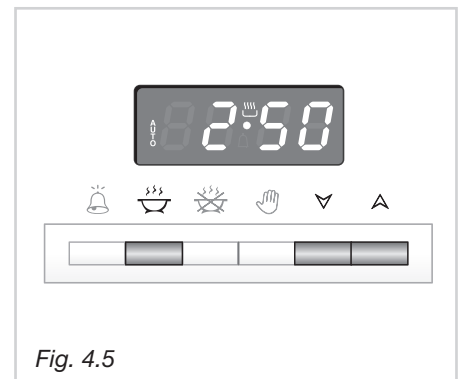

Fig. 4.5
1. Set the length of the cooking time by pushing the button and the button to advance, or to go back if you have passed the desired time (fig. 4.5).